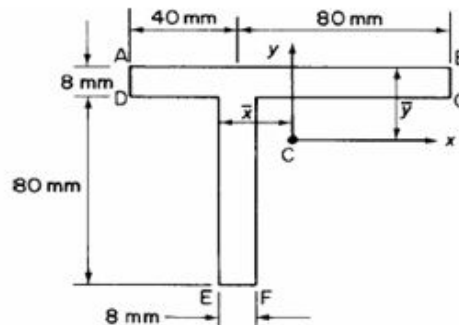

Figure 1
- (b) A beam having the cross section shown in Figure 1 is subjected to a bending moment of 1500 Nm in a vertical plane. Calculate the maximum direct stress due to bending stating the point at which it acts. [BL: Understand | CO: 4 | Marks: 3]